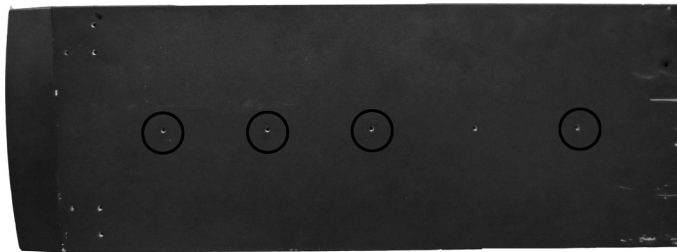

Figure 8
2. The screw holes location on chassis side that need to be corresponding to inner rail are shown in Figure 8.